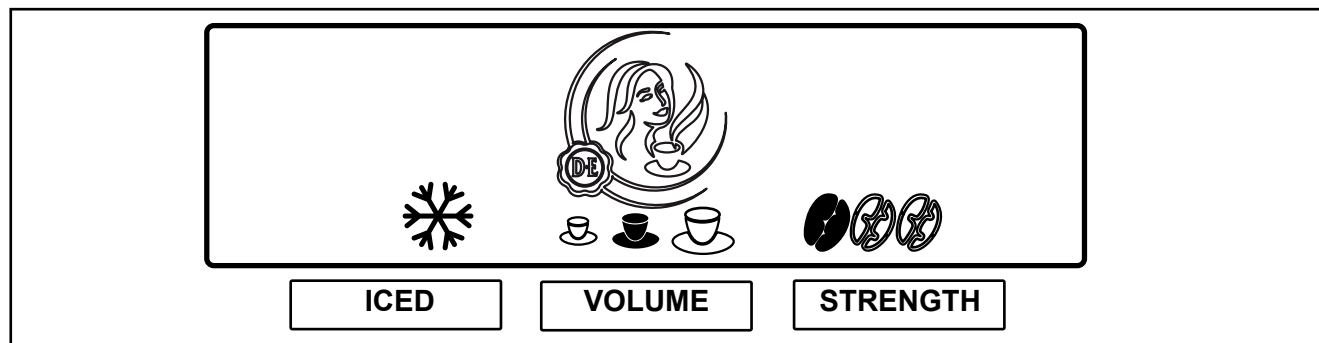

Fig. 16
3. Press the preselection button until the required drink strength is marked in black. (Fig. 16)